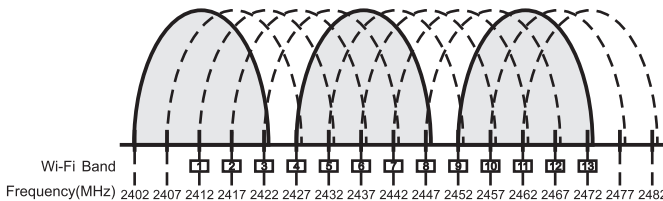

Fig. 7
- (1) Position the MA-303DG | MA-303SG at least 5-meter away from WiFi, Bluetooth or other 2.4 GHz transmitting devices.
- (2) Line-of-sight between the transmitter and MA-303DG | MA-303SG provides the ideal reception range.
- (3) User can scan environment for WiFi devices with smartphone app, normally WiFi channel selections are 1, 6, 11.
- (4) Wi-Fi Channel Distribution, Fig. 7: